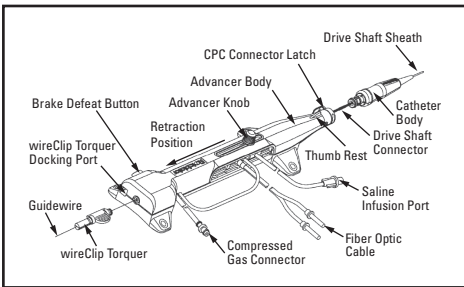

Figure 1. Advancer
**Advancer:** Illustrated in Figure 1, the advancer acts as a support for the air turbine and as a guide for the sliding elements which control burr extension. A brake within the advancer body holds the guidewire firmly during burr rotation, except in Dynaglide™ mode, to prevent the wire from spinning or moving. Manipulation of the advancer knob allows independent extension of the burr, and manipulation of the wireClip Torquer allows independent movement of the guidewire tip.